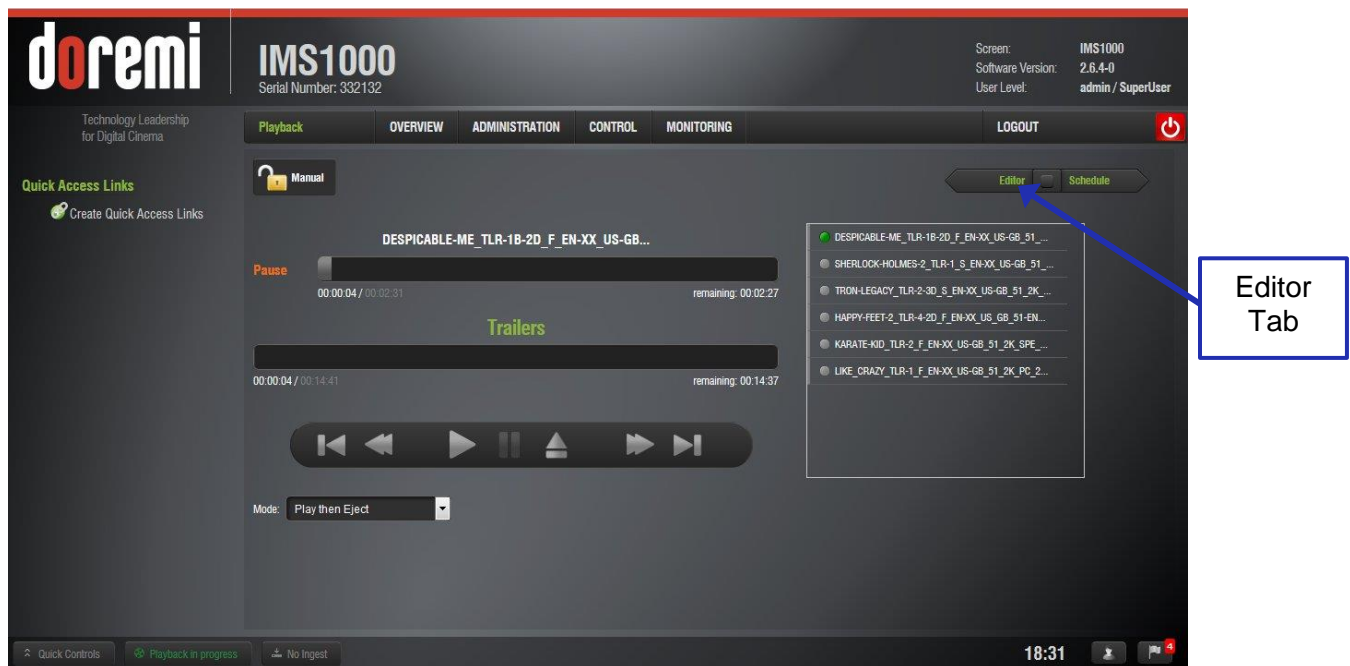

Figure 221: CineLISTER GUI Playback Tab
- The user will be prompted to CineLISTER's Playback tab. The Playback tab is the default tab that CineLISTER displays every time the application is opened (Figure 221).
- To access the Editor tab, click on the green arrow button on the right side of the GUI (Figure 221).